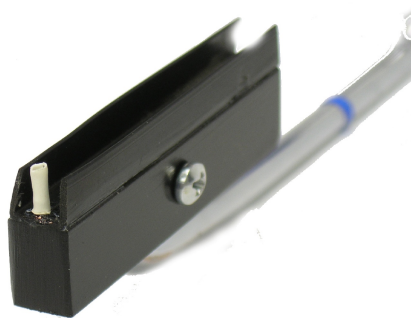

Fig 3
- 1) Using the optional pickup installation tool. Note that the pivoting end of the tool has a small stop pin at its end. (Fig 3)